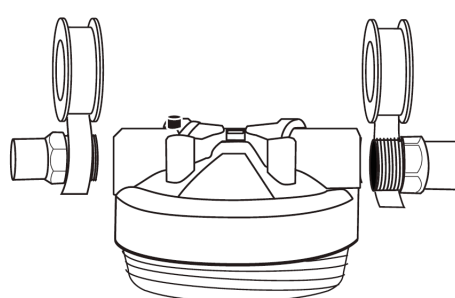

Figure 1
3. Wrap Teflon® tape (2 1/2 wraps) around the 1" MALE x 1" Street Adaptor a clockwise direction (see Figure 1) and screw firmly to filter head. Do not use pipe solvent (dope), as solvents in some types of pipe dope may cause damage to plastic fittings. Do not overtighten, overtightening can cause damage to filter head.